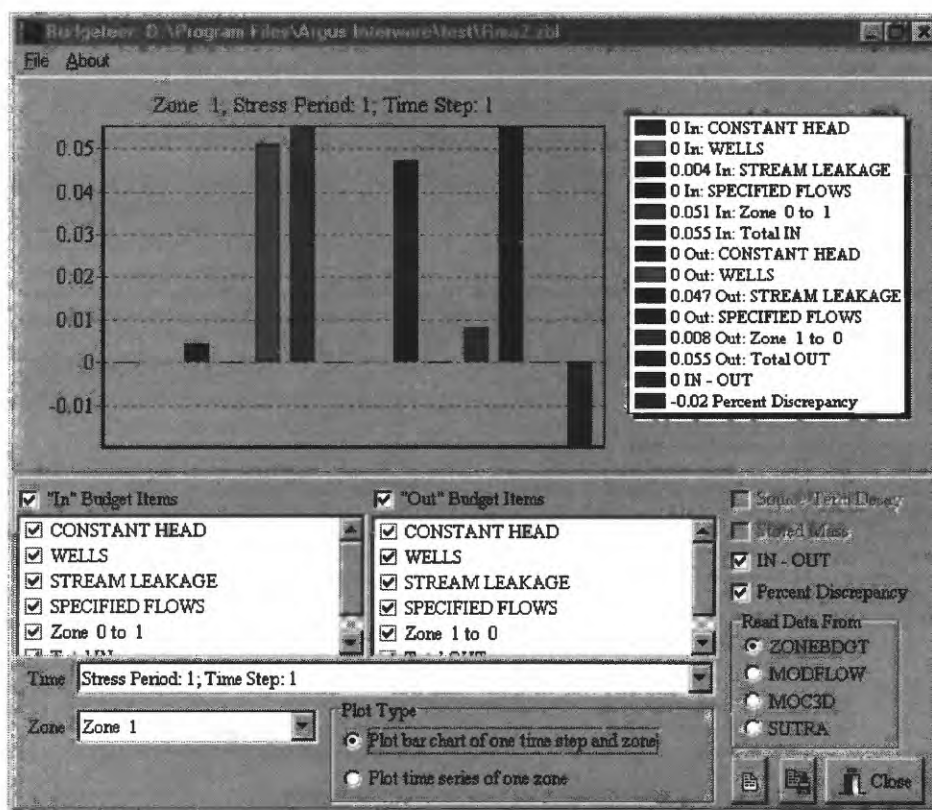

Figure 33. Budgeteer: Bar Chart of an Individual Zone.
25. Another way of examining the results of ZONEBDGT would be to use the **Budgeteer** program (Appendix 2). Start **Budgeteer** by locating **Budgeteer.exe** on and double clicking on it. Select **File|Open** and then find the ZONEBDGT output file and select it. The data for the first zone will be plotted for each time step of the model (figure 33). Use the checkboxes to decide which budget items to plot. Use the **Plot Type** radio buttons to choose whether to make a bar graph of data for an individual time step or a time series plot. Use the combo-boxes to choose which zone or time step to plot.